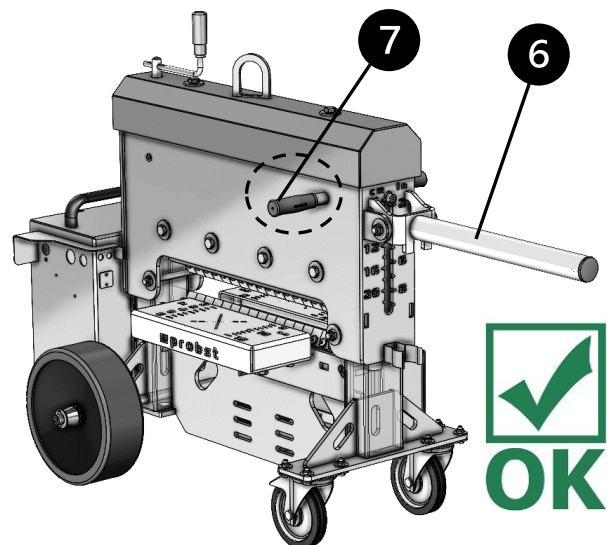

Fig. 2
- To do this, the transport lever **6** must be moved to the horizontal position. → Fig. 2